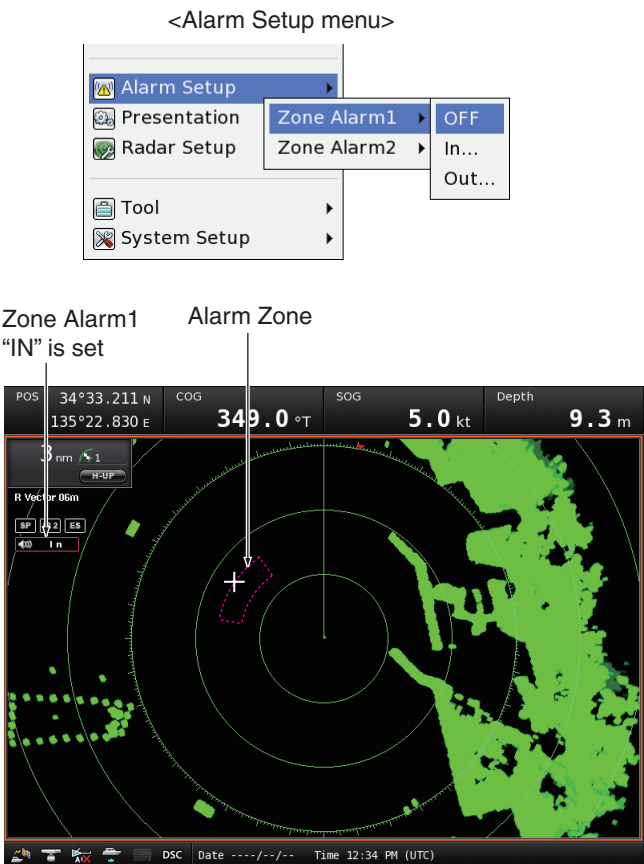

Fig. 1
- ① Push [MENU], and then rotate [DIAL] until the "Alarm Setup" menu becomes highlighted.
- ② Push [ENTER], and then rotate [DIAL] to select "Zone Alarm1" or "Zone Alarm2."
- ③ Push [ENTER], and then rotate [DIAL] to select "IN" or "OUT."
- ④ Push [ENTER], and then push [▲▼◀▶] to move the cursor to where you want to set the alarm zone, and then push [ENTER].
- The starting zone appears on the screen. (Fig. 1)